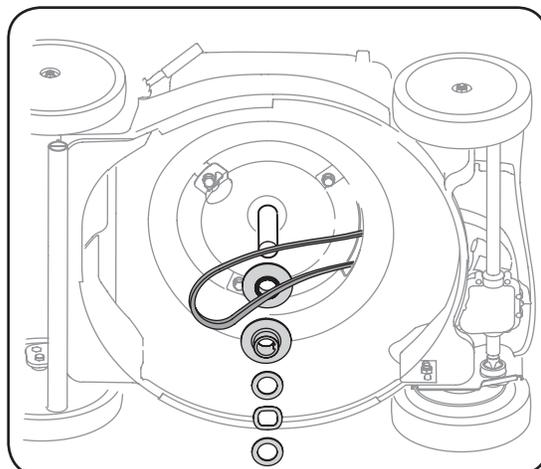

Figure 5-5
5. Slide belt off of engine pulley and thread through the opening in the deck. See Figure 5-5.